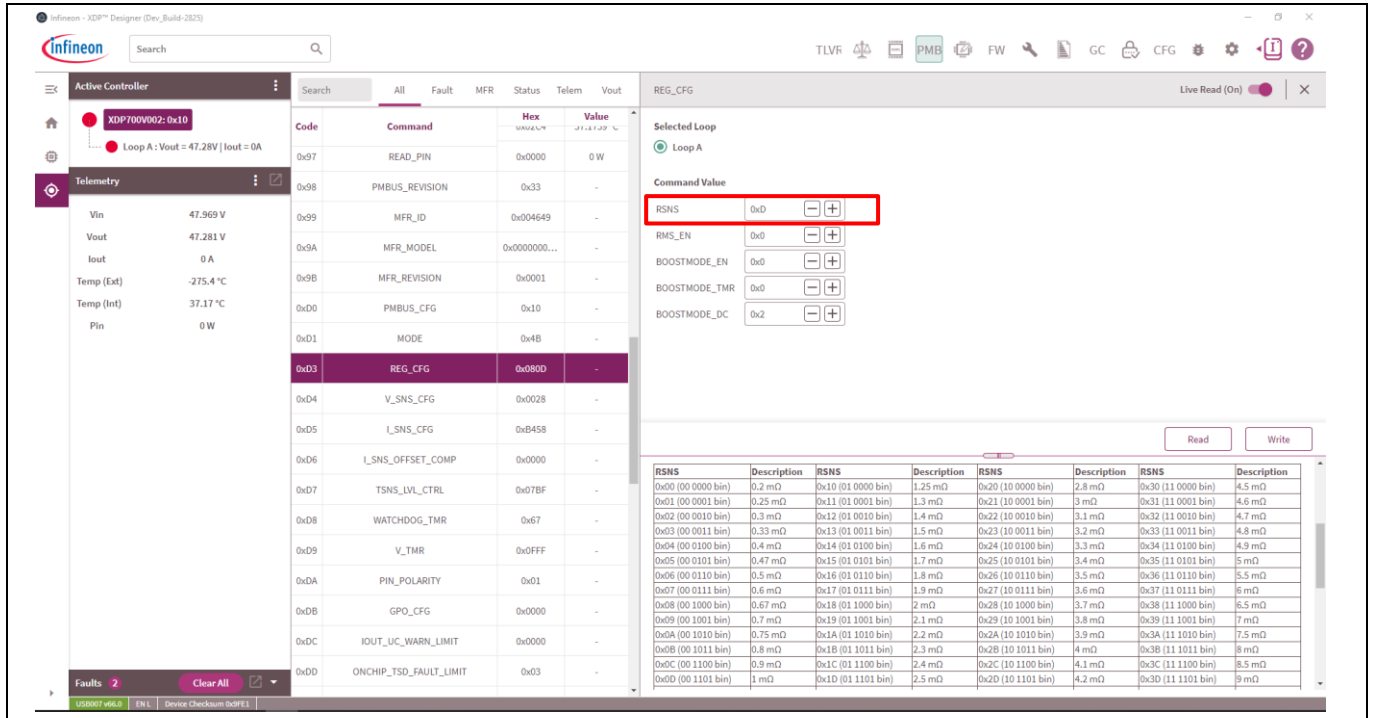

Figure 30 R_{SNS} selection
2. Modify the R_{SNS} bit to 0xD, and then click **Write**. See Figure 30.